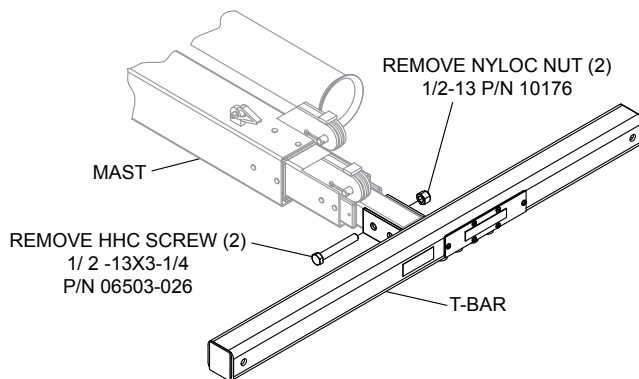

Figure 10. Removing Screws and Nuts
1. Remove the 2 screws and 2 nuts that secure the T-Bar to the mast extension. Discard these items they will not be used in the reassembly. See Figure 10.